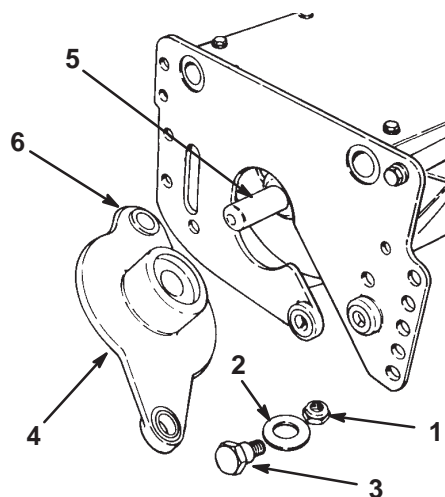

Figure 29
2. Remove the shoulder bolts, bushings, and spacers from each end of the unit and remove the bedbar/bedknife assembly (Fig. 29).
3. Remove the inboard locknut from the adjuster pin, the fasteners for the bracket, and the adjusting handle assembly from the sideplate (Fig. 29).
1. Inspect the flange bushings in the mounting holes for the drive housing and bearing housing for wear (Fig. 29). Replace, if necessary.
7. Insert the shoulder bolt through the Belleville washer and rear housing mounting hole. Slide the bolt through the sideplate mounting hole (Fig. 29). Install the cone nut locknut onto the bolt. Tighten the cone nut to 45–55 ft.-lb.